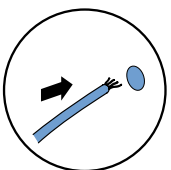

fig. 1.3 Hanging a motorized awning
1. Hang the awning in the wall supports. See figure 1.3 for electrical control or 1.4 for strap control.